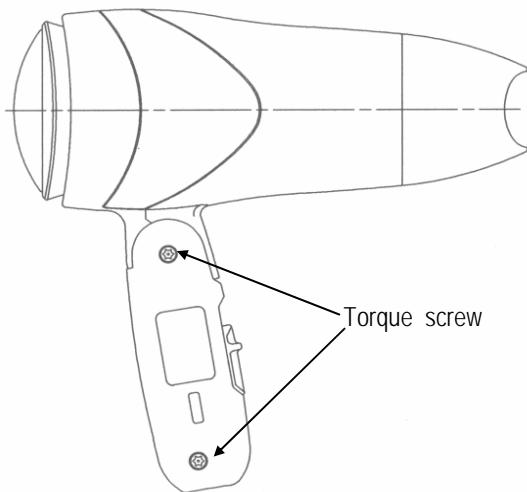

Figure 11
- (1) Remove 2 torque screws from main body with a torque head driver as shown in Figure 11.